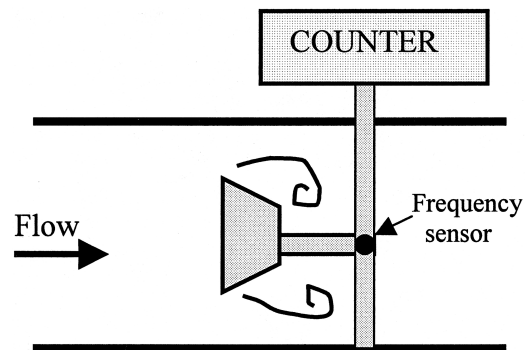

Fig. 6.34
**5.53** Vortex shedding can be used to design a *vortex flowmeter* (Fig. 6.34). A blunt rod stretched across the pipe sheds vortices whose frequency is read by the sensor downstream. Suppose the pipe diameter is 5 cm and the rod is a cylinder of diameter 8 mm. If the sensor reads 5400 counts per minute, estimate the volume flow rate of water in  $\text{m}^3/\text{h}$ . How might the meter react to other liquids?